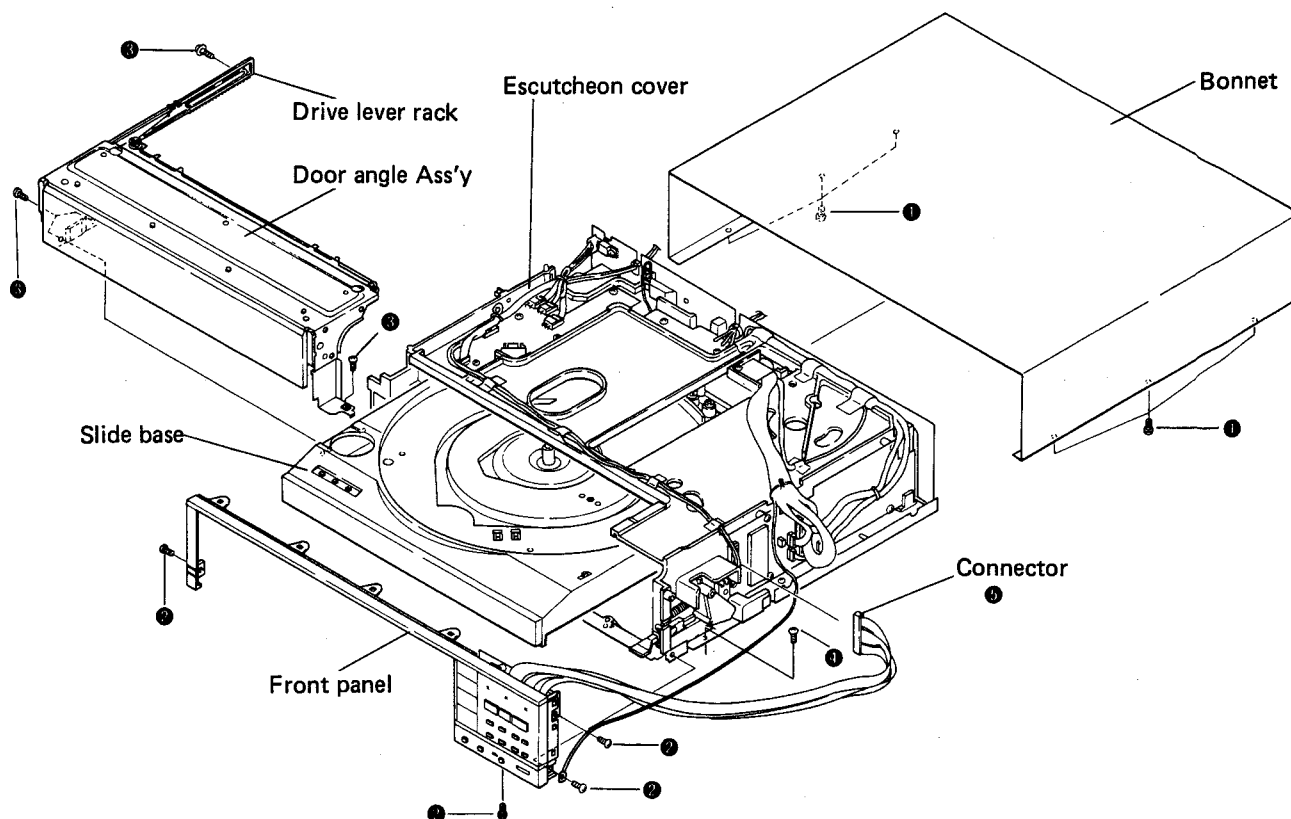

Fig. 1-1 Disassembly 1
2. Remove the rubber platter mat, turntable platter, and 45 rpm adaptor. Undo screws ❶ and remove the bonnet case by pulling off towards the rear (see Fig. 1-1).
3. Undo screws ❷ and remove the front panel (operation panel). This panel can be removed altogether if connector ❺ is disconnected.
4. Undoing screws ❸ enables removal of the door angle ass'y. Since the drive lever rack for opening the door engages the main gear in this door angle unit, perform this operation with due care (see Fig. 1-1).